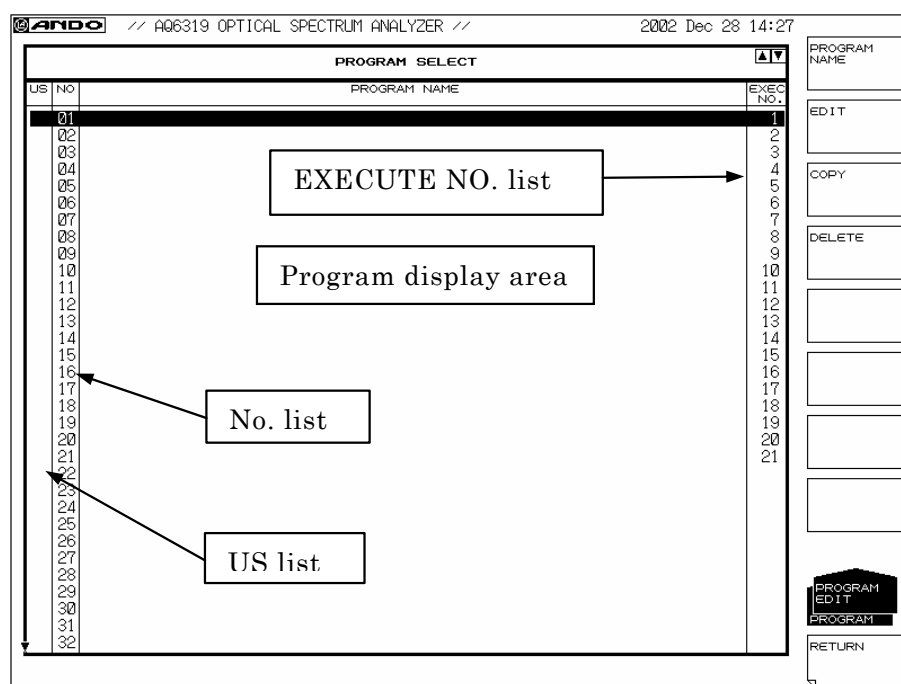

Figure 1-1: Screen Displayed when Pressing the <PROGRAM EDIT> Key
This causes a program list as shown in Figure 1-1 to appear.
- ① On the screen as shown in Figure 1-1, press the <PROGRAM NAME> key. This causes the Label Input screen to appear in the same manner as inputting a label.
On the screen listing programs (Figure 1-1), you can delete a registered program or copy it to another program number.